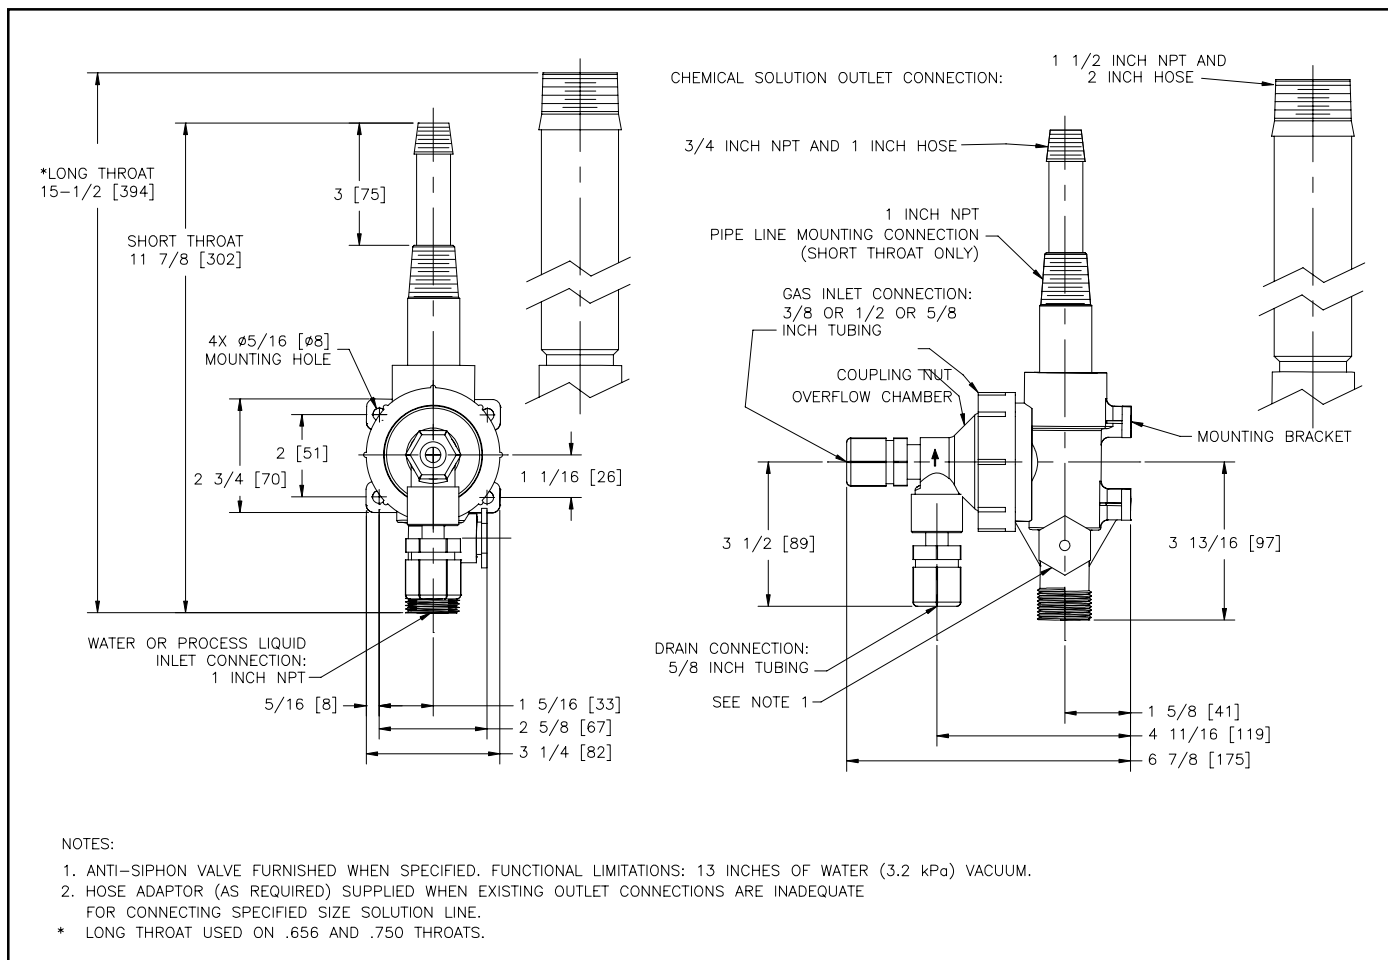

Figure 1 - EJ17 Ejector
- 2.2.4.1 Refer to the appropriate vacuum regulator instruction book, Figures 1, 2 & 3 and specifications paragraph 1.3 for interconnection and connection size information.